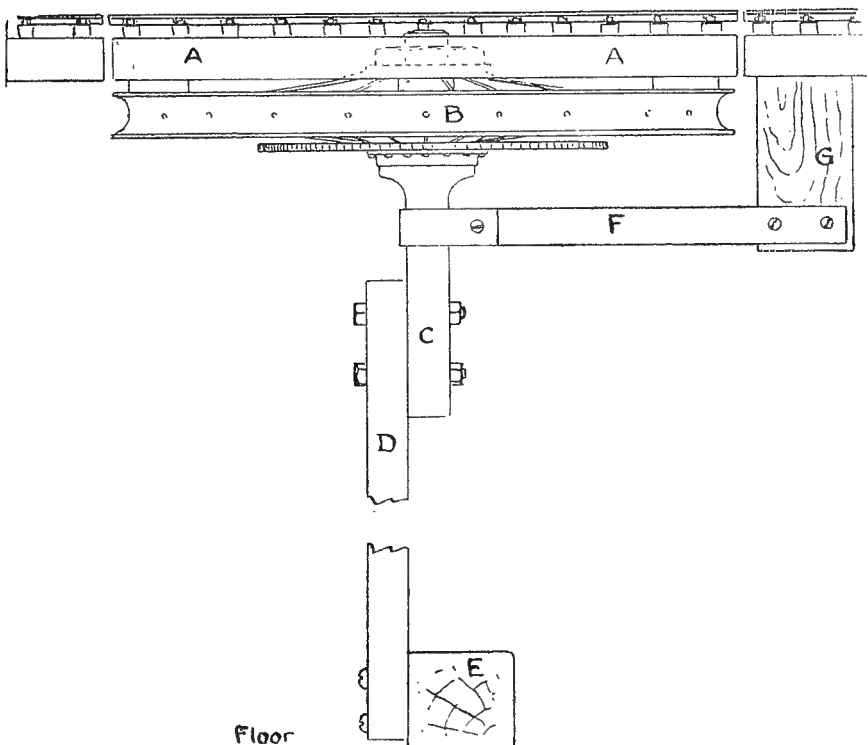

Fig. 183.—Brig. Sir Eric Hutchison's scheme for a turntable mechanism.
The first procedure is to cut out accurately from the baseboard an aperture the size of the turntable; if the baseboard is of solid wood this piece will itself serve for the deck. The diameter should be something like that of the wheel, though whether it is larger or smaller is really not serious. The table is next mounted on chocks on the wheel (B) (Fig. 183), and securely attached with bolts and plates. It may be necessary slightly to shorten the axle or to make some adjustment, depending on the length of the hub in order to keep it below the turntable level. The axle (C) is bolted to an extension-piece (D), which may be of either hardwood or metal. The lower end of this is screwed to a block (E), which is attached to the floor. The greatest care must be taken to get the axle vertical, so that the table will revolve on an absolutely level keel. The upper end of the axle is gripped by a stay (F), attached to a block (G), which is screwed into the baseboard.